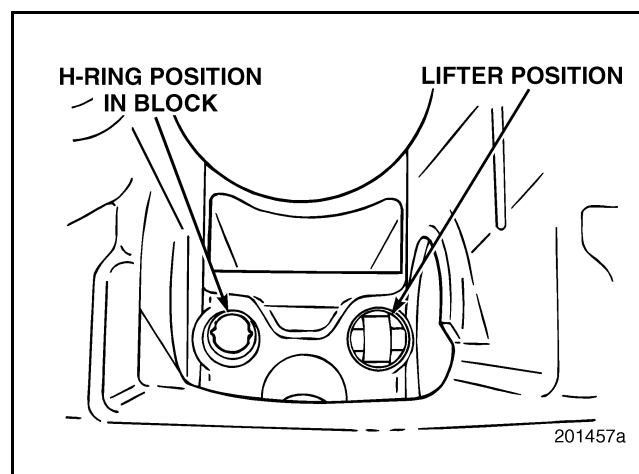

Figure 349 — Installed Valve Lifter
4. Install a lifter in the lifter bore by aligning the lifter flats with the H-ring flats (Figure 349). Use only light finger pressure when installing the lifters. Verify that the lifter has complete freedom of movement in the bore and H-ring in both the upward and downward directions. When the lifter is seated, it should be possible to rotate it slightly from left to right. If the lifter is sticky or tight, or if additional force is required to install the lifter, proceed as follows: